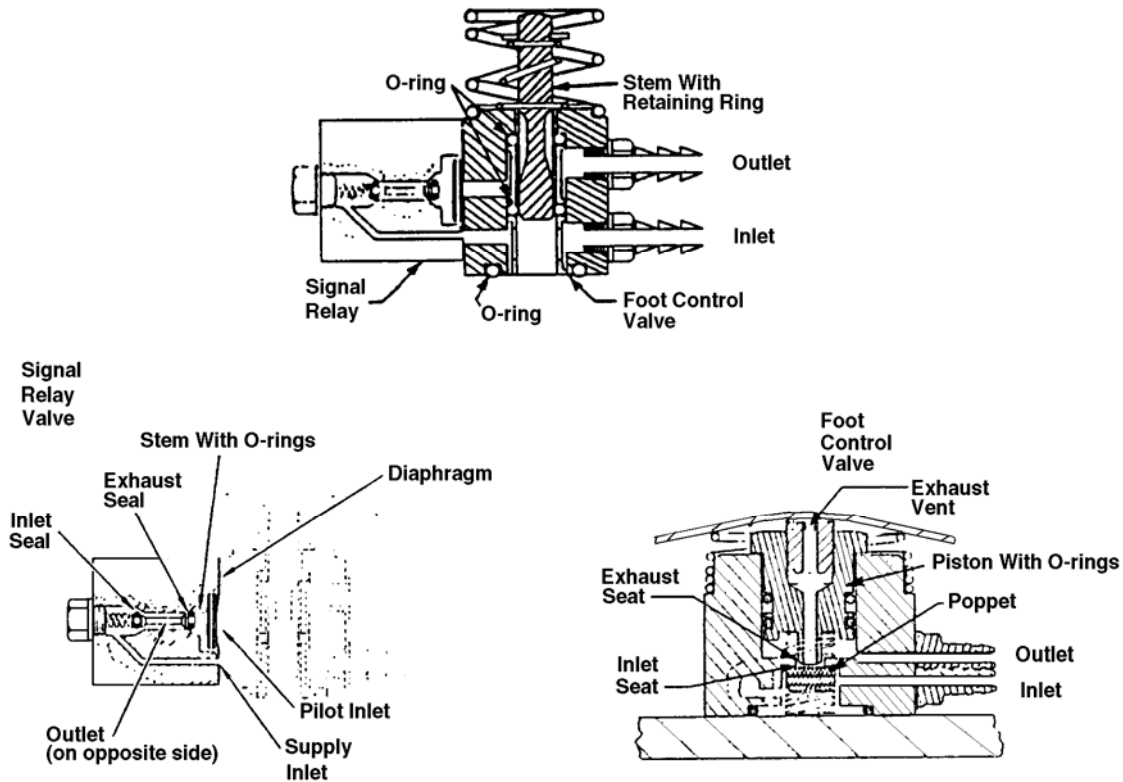

Figure 5-5. Foot control and foot control valve.
When you have an audible leak when no one is using the foot control, the air subsystem is probably malfunctioning. After verifying that all tubing is properly connected, use the following procedures to find the cause of the malfunction, if necessary. Refer to figure 5-5.
- (1) Remove the foot control cover.
- (2) Use a soap solution, if necessary, to locate the source of the leakage. The leak will bubble when you coat the area where the leak is occurring with a heavy soap-water solution.
(3) For leakage from the signal relay, use the following procedures. Refer to figure 5-5.